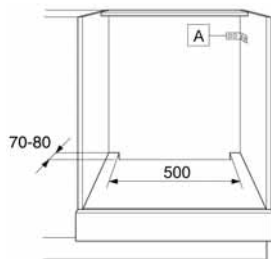

Fig. 6
- In order to ensure adequate cooling ventilation, it is important to leave an open space at the back of the unit (see Figure 6). **When installation has been completed, the bottom of the oven must be inaccessible.**
- If the kitchen unit is not securely fixed to the wall, it must be anchored with brackets (**A**) (Fig. 6).